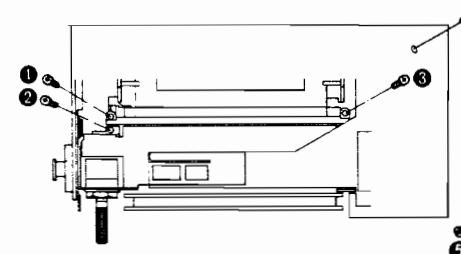

Fig. 4
1. Unscrew the 4 screws (① ~ ④) as shown in Fig. 4.